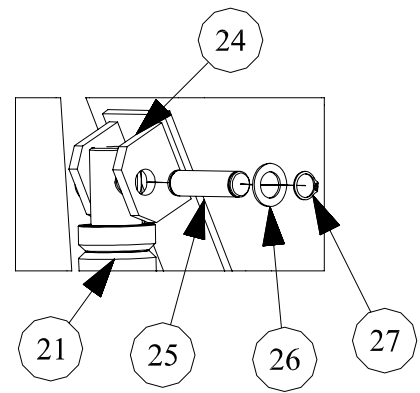

Figure 9
- Mount the rod end of the hydraulic cylinder [#21] to the cylinder mounting bracket [#24] located on the boom by aligning the cylinder's hole with the holes in the mounting bracket and insert the 3/4" upper cylinder retaining pin [#25] as shown in Figure 9.